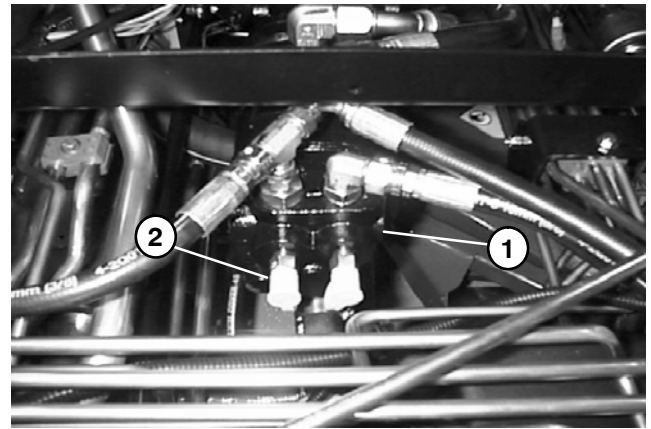

Figure 39
3. Raise seat to gain access to lift circuit test port located on the front end of the gear pump (Fig. 39). Connect a 5000 PSI gauge onto lift circuit test port. Route gauge hose to allow seat to be safely lowered.